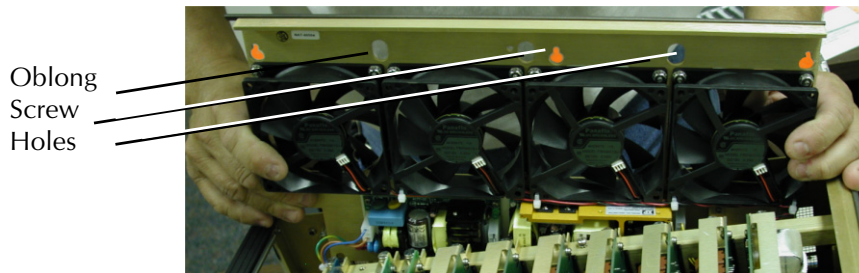

Figure 5.12 Screw Holes on Fan Assembly Rail
5. Loosen the Phillips head screws that secure each end of the assembly. These screws fit inside oblong shaped holes on the assembly rail (Figure 5.12).